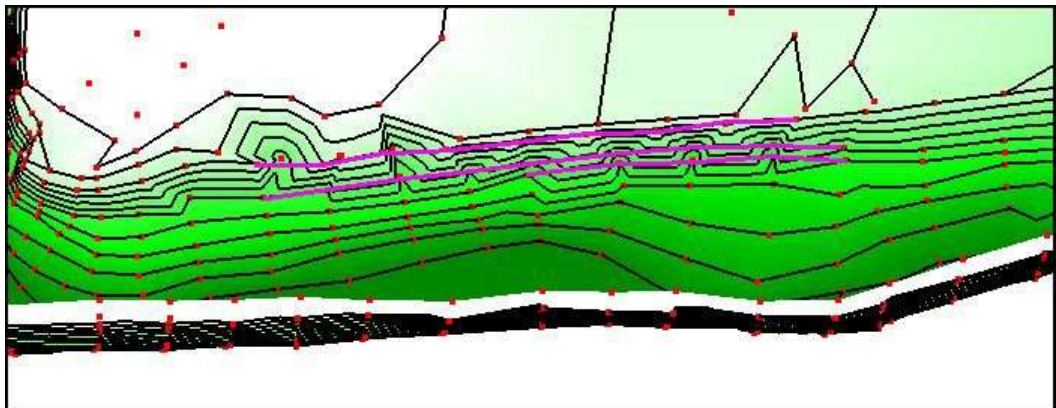

Figure 9 Connectivity for breaklines on the bank
- Using the **Create Breakline**  tool, add breaklines along the bank of the channel. Do this by clicking on the scatter points with common elevations as shown in Figure 9 (This illustrates three separate breaklines). End a breakline with double clicking on the last point.